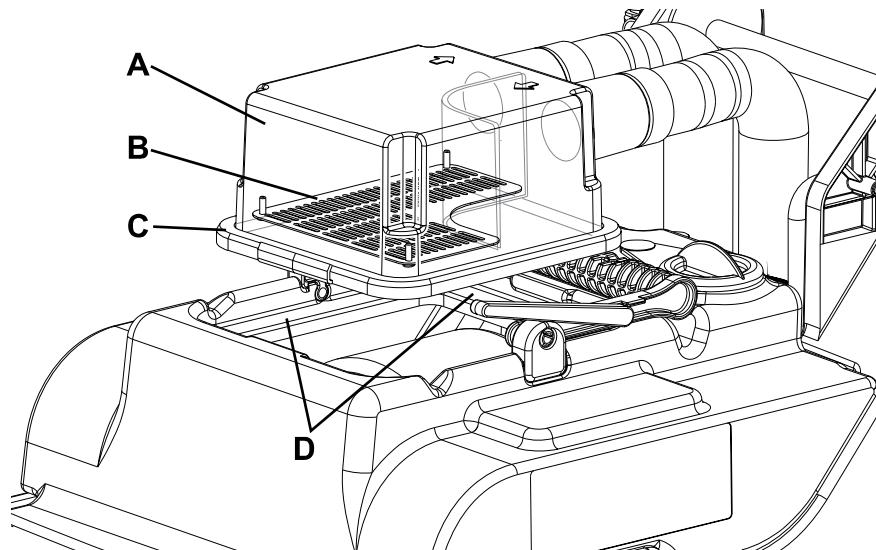

Figure 3
2. Make sure that the power supply cable (10) is disconnected from the electrical mains.
4. Open the transparent cover (A, Fig. 3) and clean it with care.
- Clean the vacuum grid (B) with care.
5. Empty and clean the recovery tank (16) as shown in Use chapter.
6. Check the transparent cover gasket (C) for integrity.